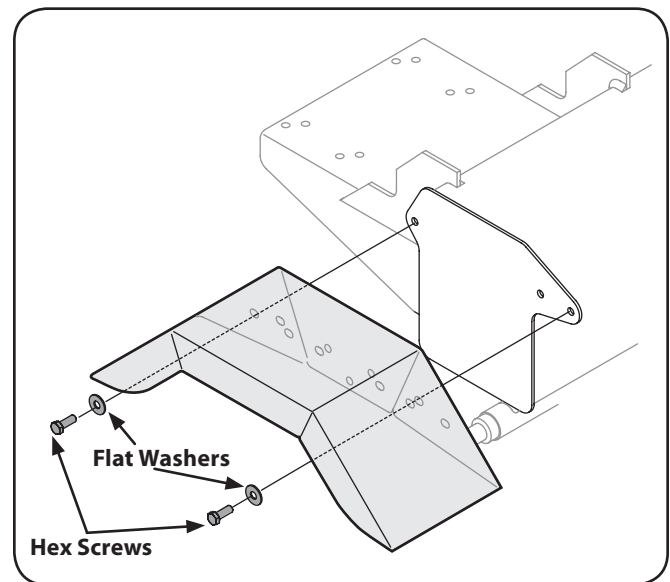

Figure 3-1
2. Line up the assembly holes in the fender with the proper holes in the tank. See Fig. 3-1.